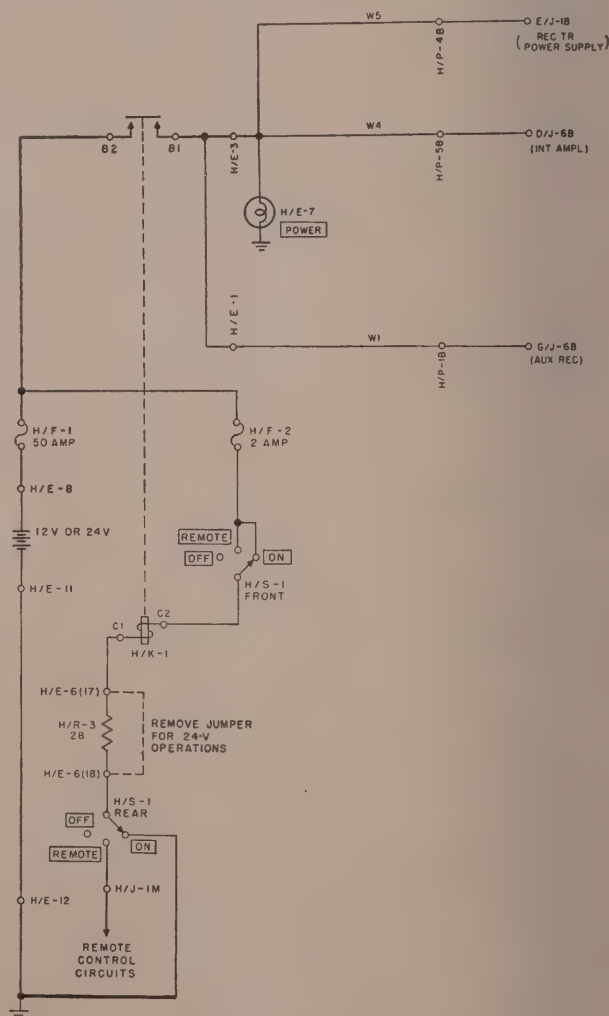

Figure 35. Primary power application, schematic diagram.
b. Partial schematic diagrams (figs. 35 through 41) are presented to aid in understanding the discussion. The diagrams are portions of the main system power distribution circuit (fig. 94). Figure 95 is similar to figure 94 except that the circuits through Control Group AN/GRA-6 (auxiliary equipment) are shown instead of those through Control Box C-375/VRC.
### 69. Primary Power Application (fig. 35)